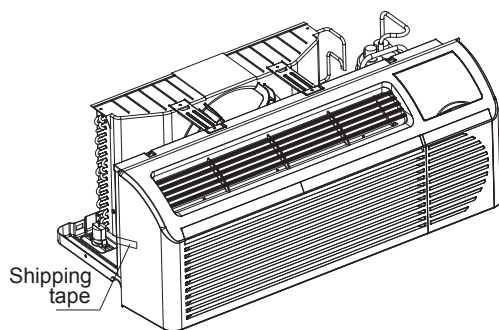

Fig. 9 – Shipping Tape Location
1. Carefully remove shipping tape from the front panel and vent door. See Fig. 9.